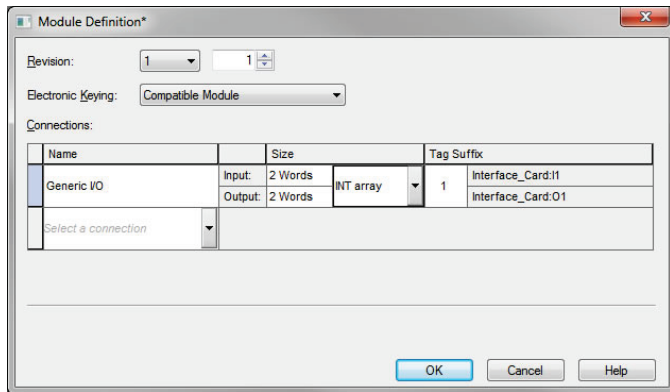

Figure 39: AOP Generic I/O Module Definition
- 3) Configure the Generic I/O connection. Refer to Figure 39.